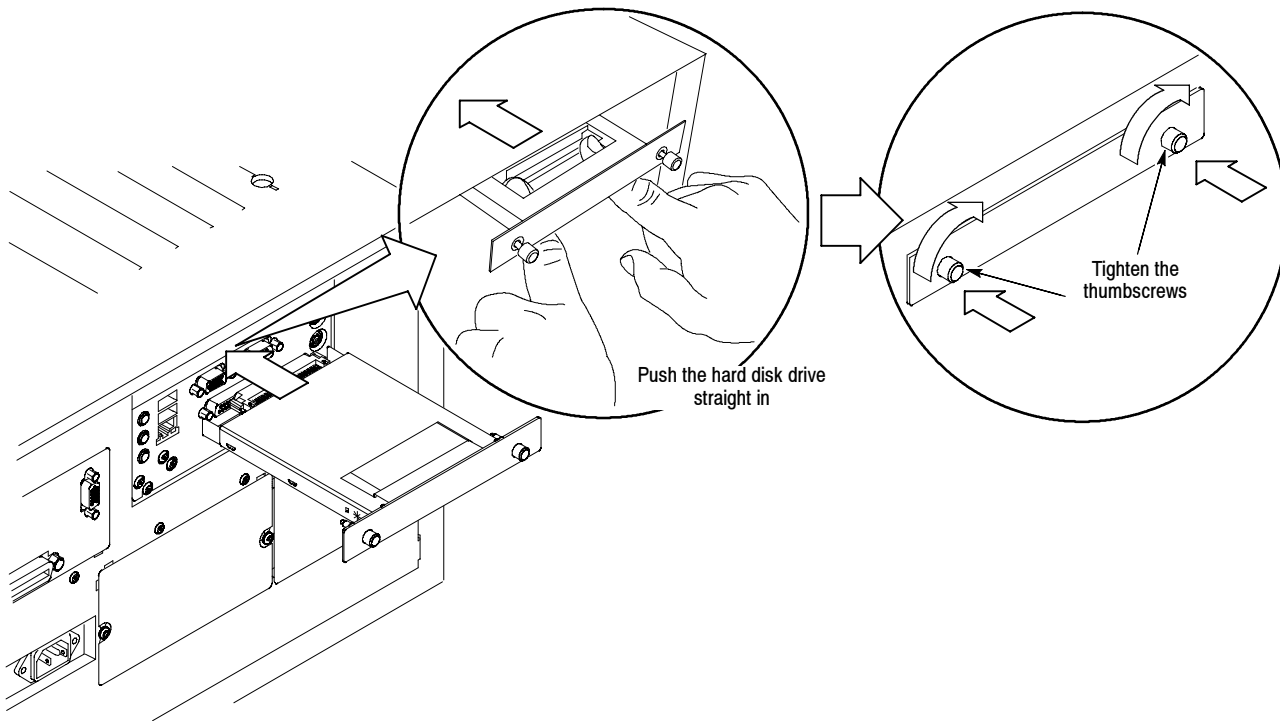

Figure 2: Reinstalling the hard drive
¹ No additional cover assembly is required for TDS/CSA7000B instruments with the standard rear hard drive location; discard all covers. Install the hard drive assembly as shown in Figure 2 on page 2 and proceed to Load Software.
4. The assembly is ready to install in your instrument. See Figure 2 on page 2.